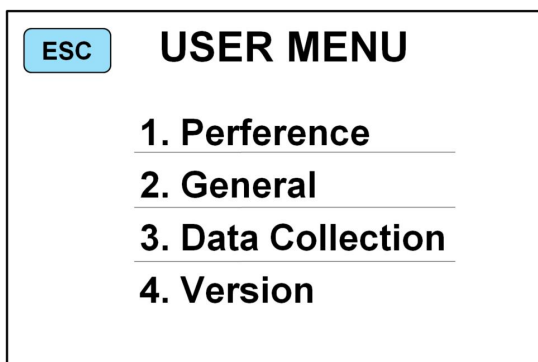
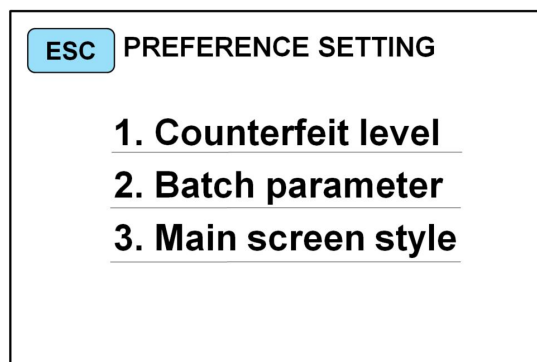

Figure 26
Figure 27
1) Press the “” key to enter the main interface of USER MENU, as shown in Figure 26 below, Press “1.Preference” to enter into PREFERENCE SETTING interface as Figure 27.